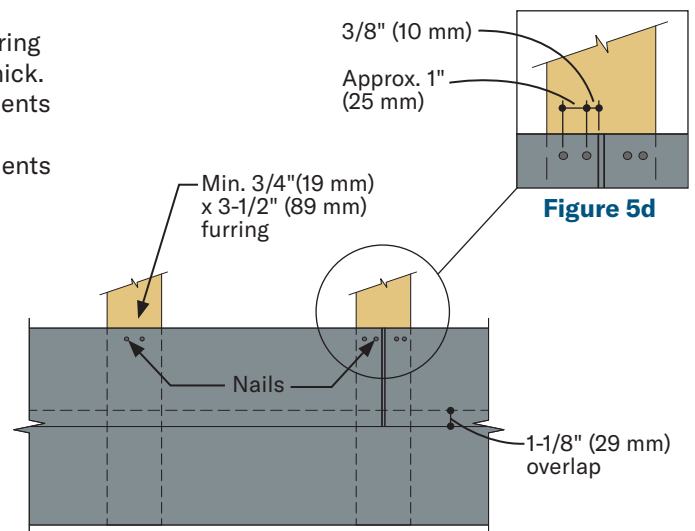

Figure 5c
- Siding attachment to furring: (Figures 5c)